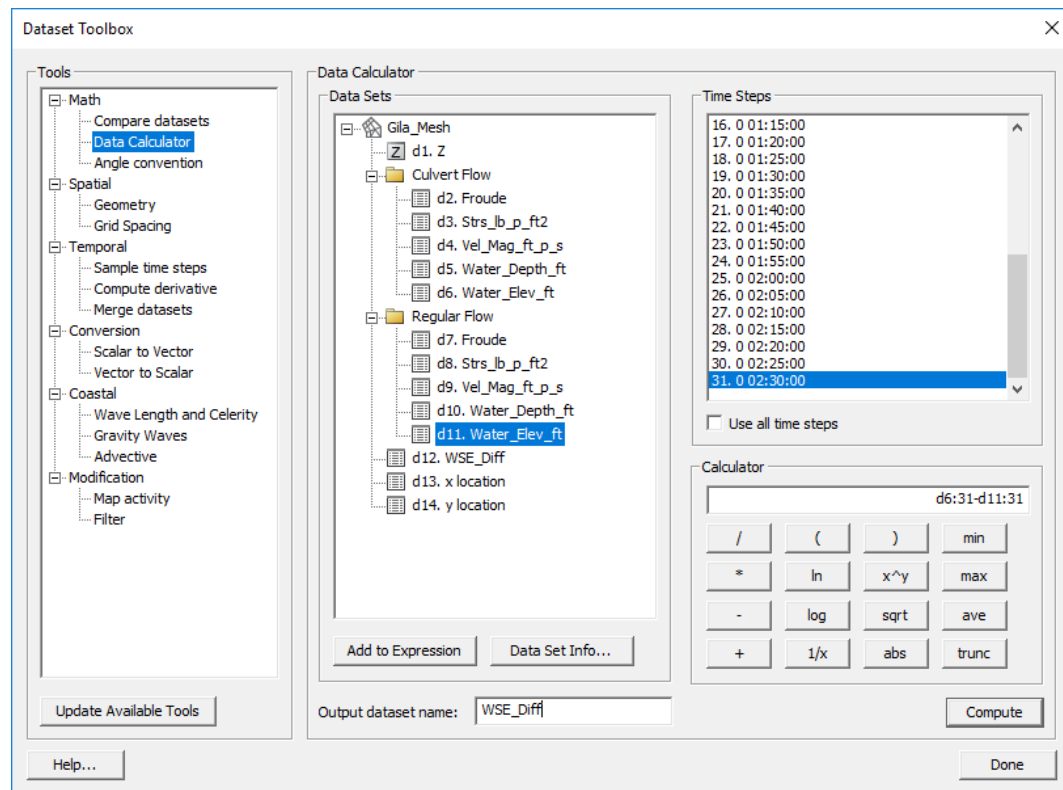

Figure 7 Data Calculator Expression
10. Specify the name of the dataset as “WSE_Diff” in the *Output dataset name* box. The window should look like Figure 7.